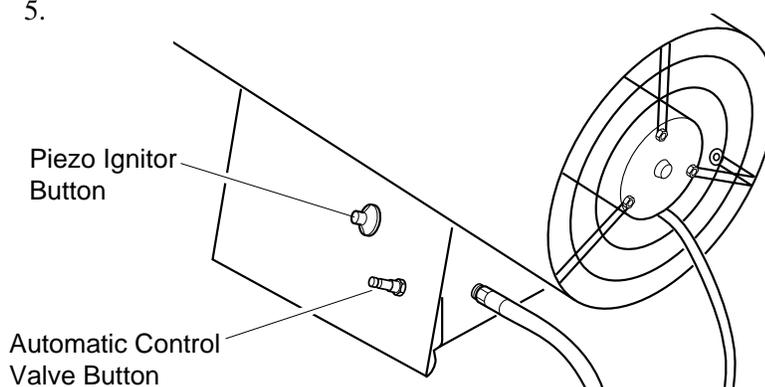

Figure 5 - Automatic Control Valve Button and Piezo Ignitor Button
5. Push in and hold automatic control valve button (see Figure 5). Push piezo ignitor button (see Figure 5). You may need to push piezo ignitor button 3-8 times until the burner lights. When burner lights, keep automatic control valve button pushed in for 30 seconds.